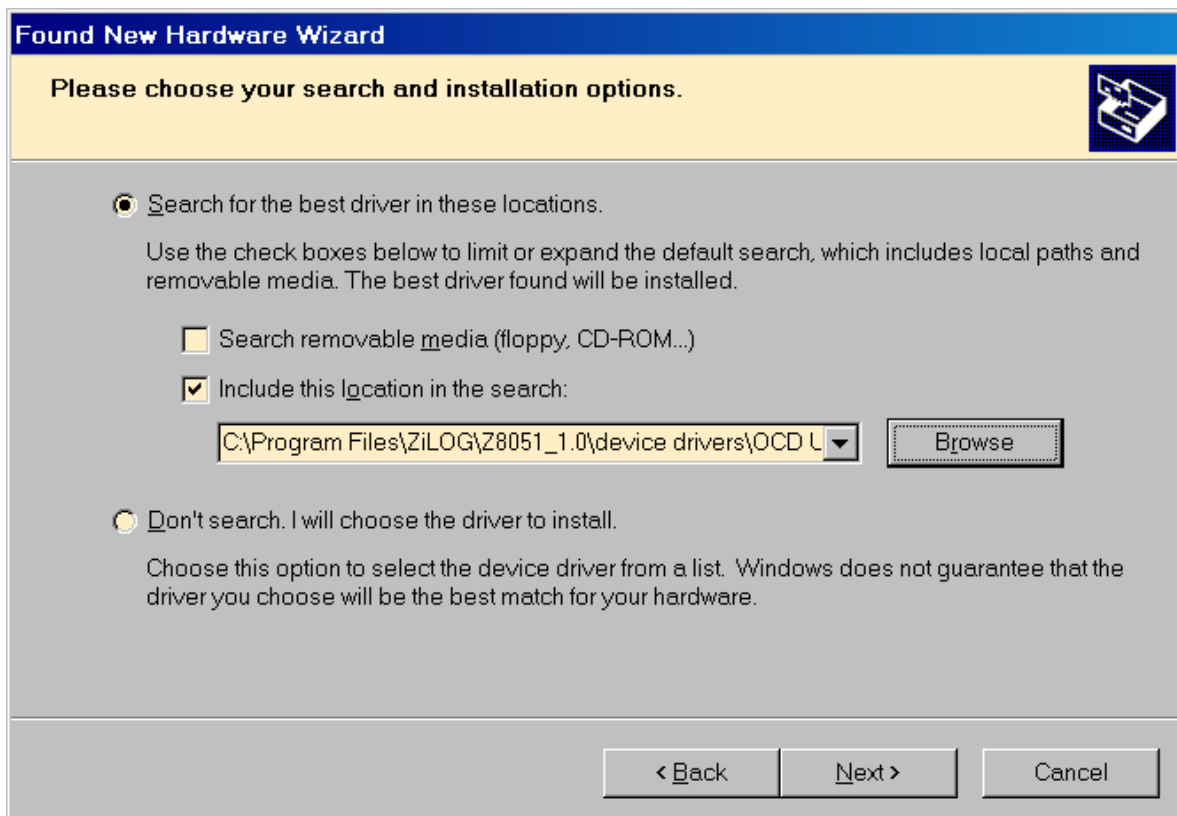

Figure 37. The Found New Hardware Wizard's Browse Screen
3. The next dialog box, shown in Figure 37, prompts you to enter a path or navigate to the directory in which the .inf file was installed. Depending on the type of computer you use (32-bit or 64-bit), use the **Browse** button to navigate to one of the following paths and click the **Next** button, leaving all other selections at their default settings.